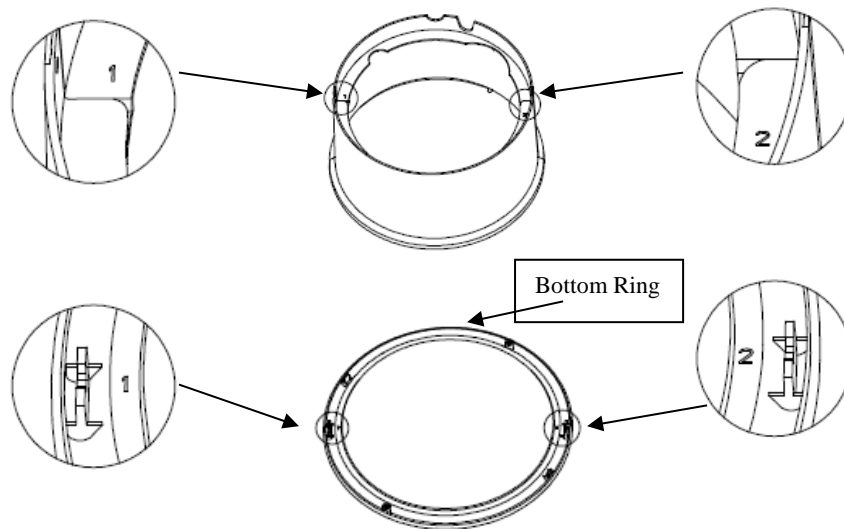

Fig 2a
- b) Align the assembled platform to the bottom stability ring as shown in figure 2a. Align the areas marked “1” and “2” on the platform with same areas marked “1” and “2” on the stability ring.